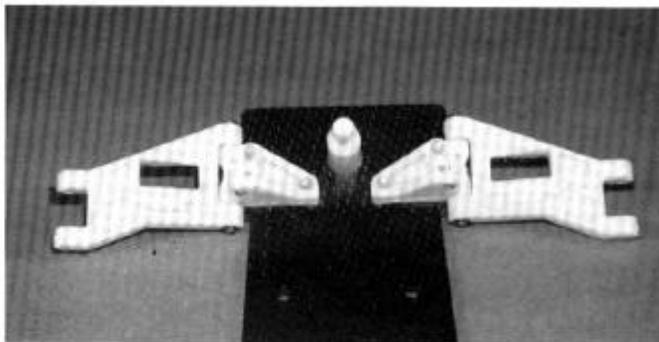

FIG. 7
□ **FIG. 7**—Now install the right hand mount.